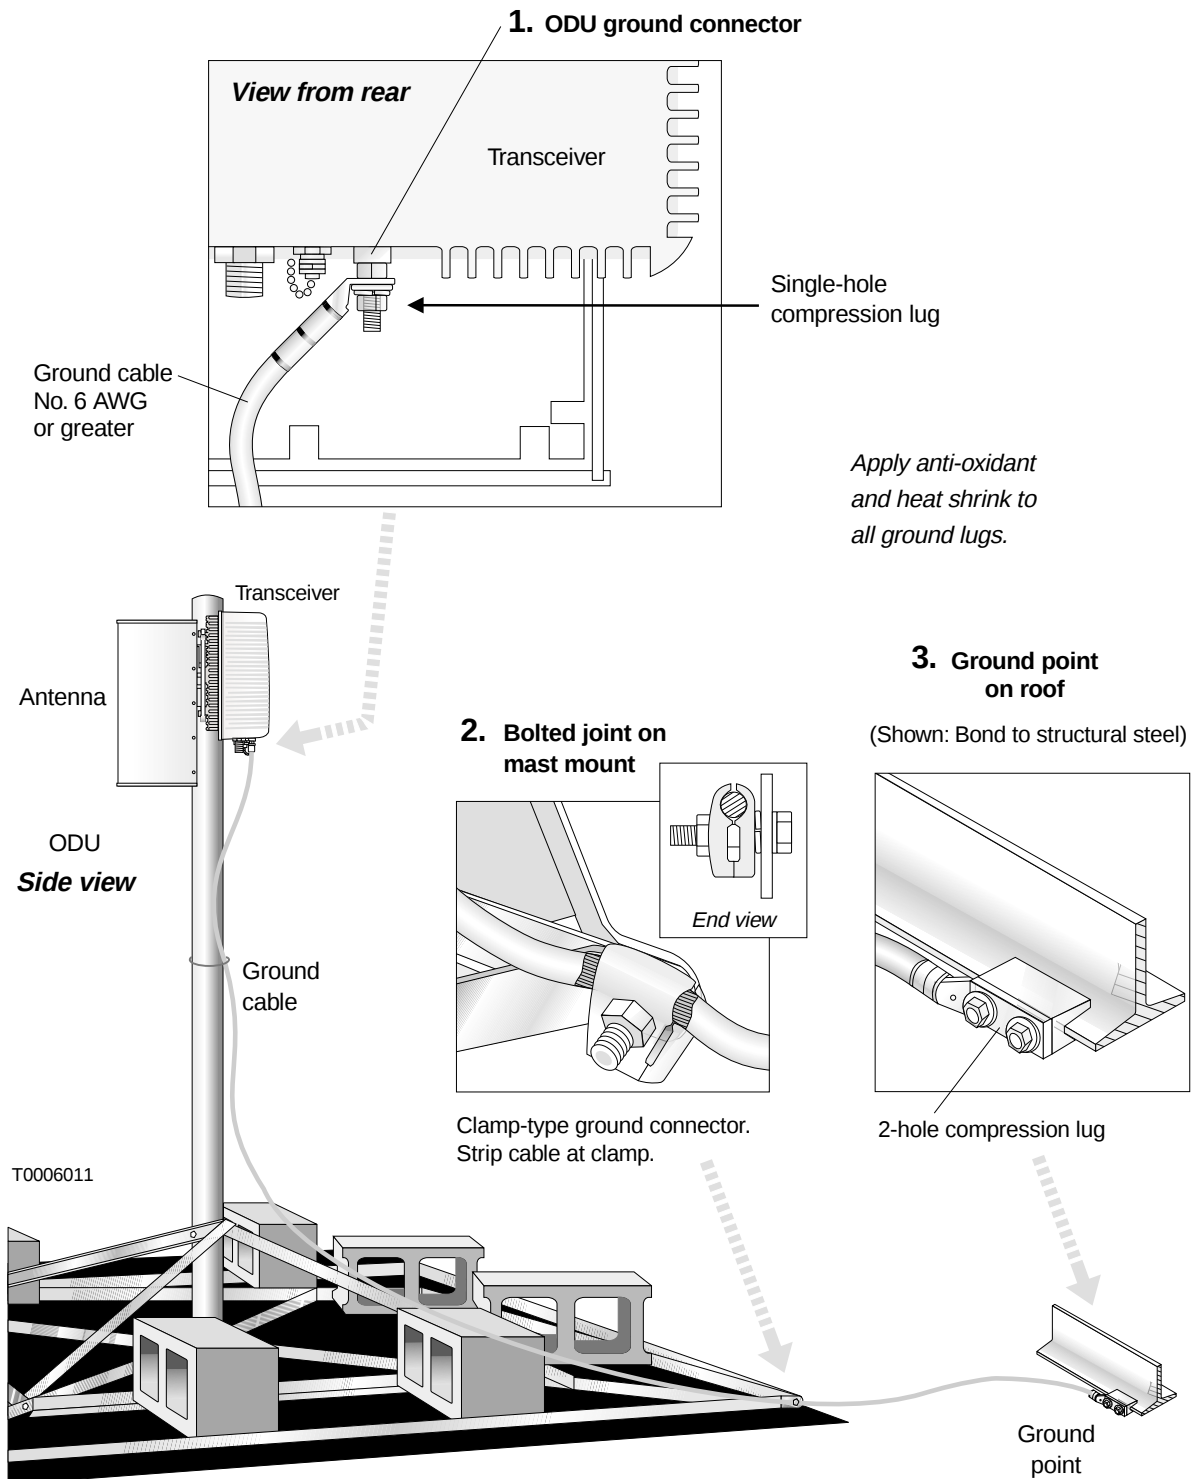

Figure 4-21 ODU grounding connections
Grounding the ODU requires several connections, as shown in figure 4-21. In making the ground connections, *follow these practices*:
1. Connect one end of the ground cable (No. 6 AWG or greater, green) to the ODU ground connector, which is shown in figure 4-21.
Important: For this connection, strip the cable but **do not cut it**. See figure 4-21. The cable continues from the bolted joint to the ground point.
4. Apply anti-oxidant (HNS 9008224-0002) to each ground lug (points 1, 2, and 3 in figure 4-21).